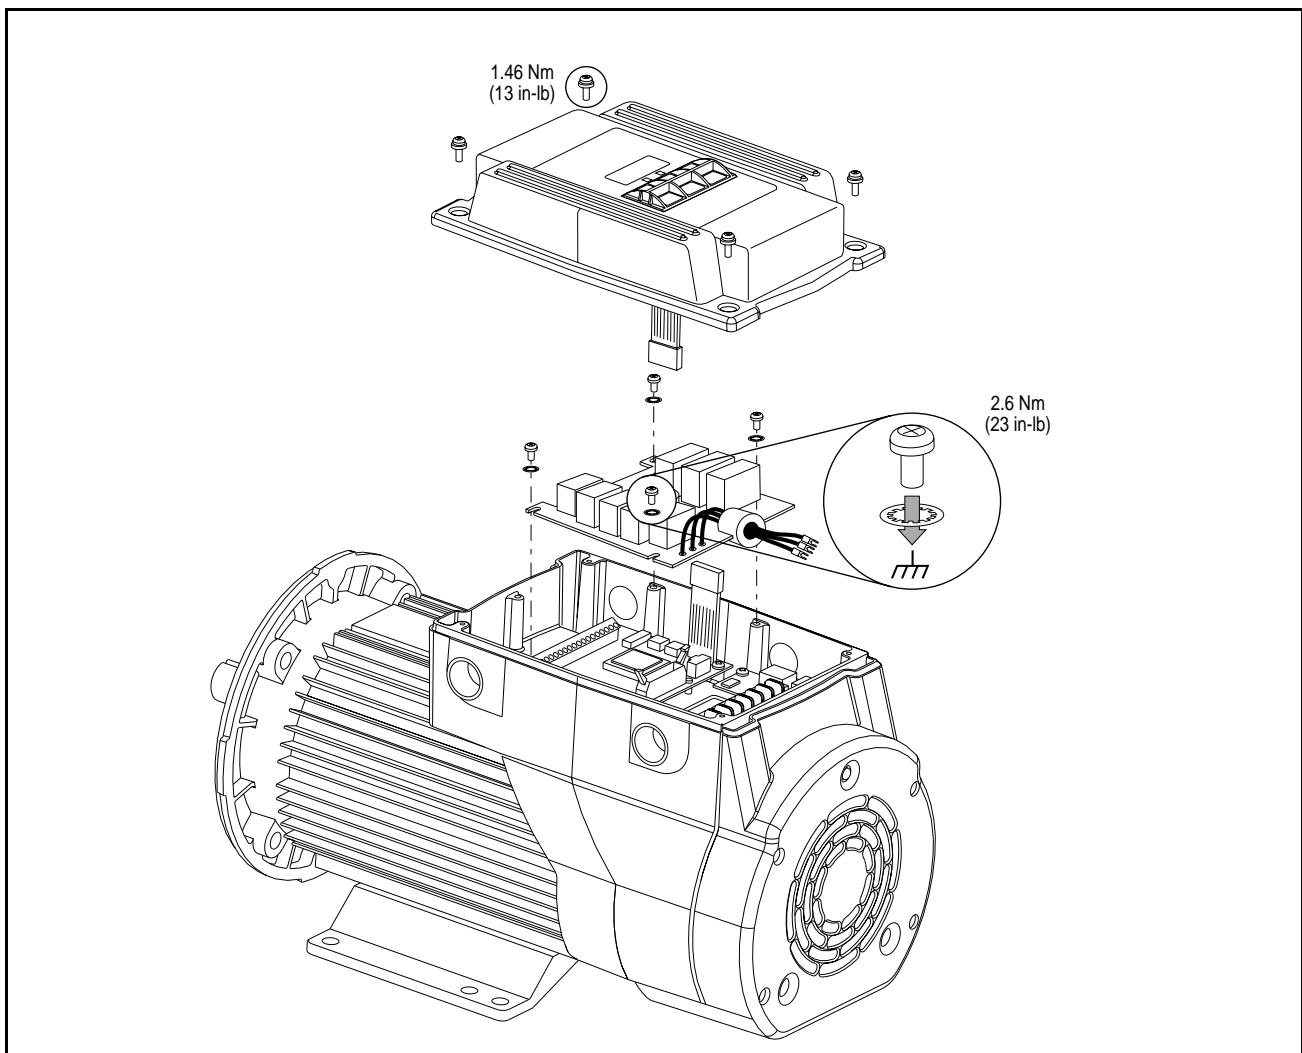

Figure 1 – Mounting the Internal CE Filter Kit
Step 2. Mount the CE filter as shown in figure 1 below using the screws and lock washers provided.